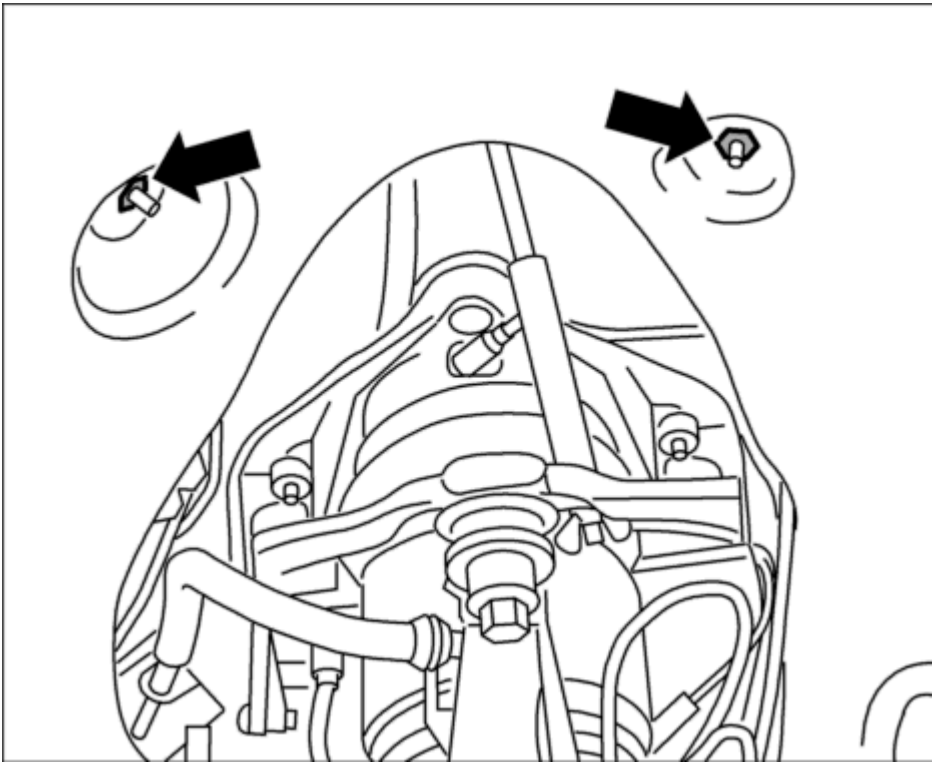

Fig. 105: Wheel housing liner plastic nut fasteners
13. Screw in plastic nuts -**arrows**- on wheel housing liner. See **Fig. 105**.